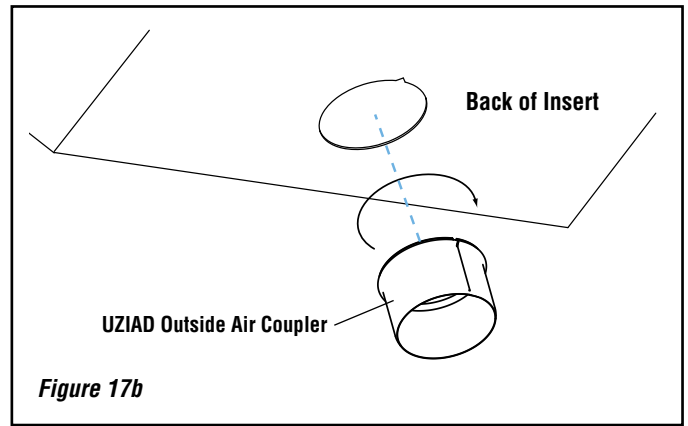

Figure 17b
**One-piece collar:** To install the outside air kit coupler onto the stove, line up the "V" notch in the coupler with the "V" notch in the open on the bottom of the stove. Push and twist so the rolled edge catches the bottom of the stove and continue turning full 360° to lock the coupler in place (*Figure 17b*).